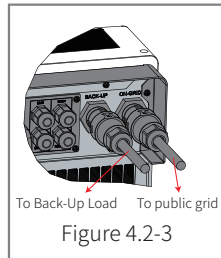

Figure 4.2-3
- **On-Grid & Back-Up Connection:** Confirm on-grid connected to power grid and back-up connected to loads: polarities (L1/L2/L3/N are in sequence) are not reversed, refer to figure 4.2-3.